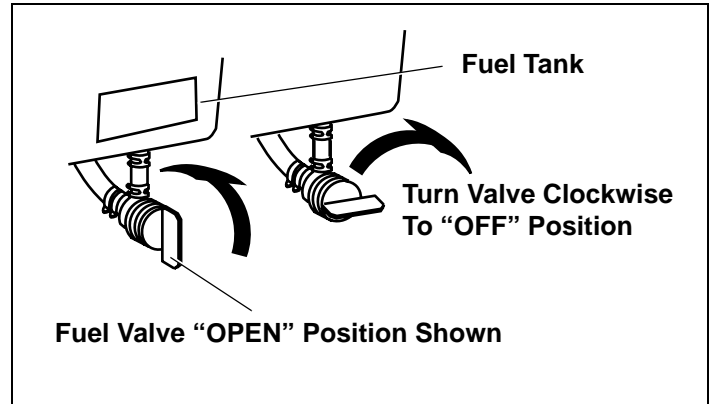

Figure 13. Fuel Valve Positions
6. Be sure fuel valve, if present (see equipment manufacturer’s instructions) is open. See Figure 13.